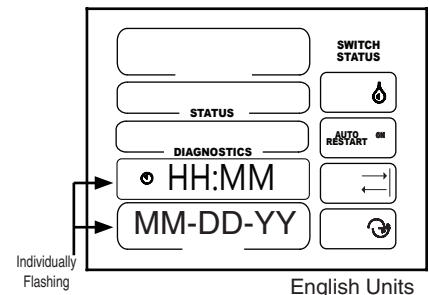

Figure 43-2
1. The HH (hours) should be flashing. See figures 43-2 and 58-3.
1. The MM (minutes) should be flashing. See figures 43-2 and 58-3.
1. The MM (month) should be flashing. See figures 43-2 and 58-3.
1. The DD (day) should be flashing. See figures 43-2 and 58-3.
1. The YY (year) should be flashing. See figures 43-2 and 58-3.